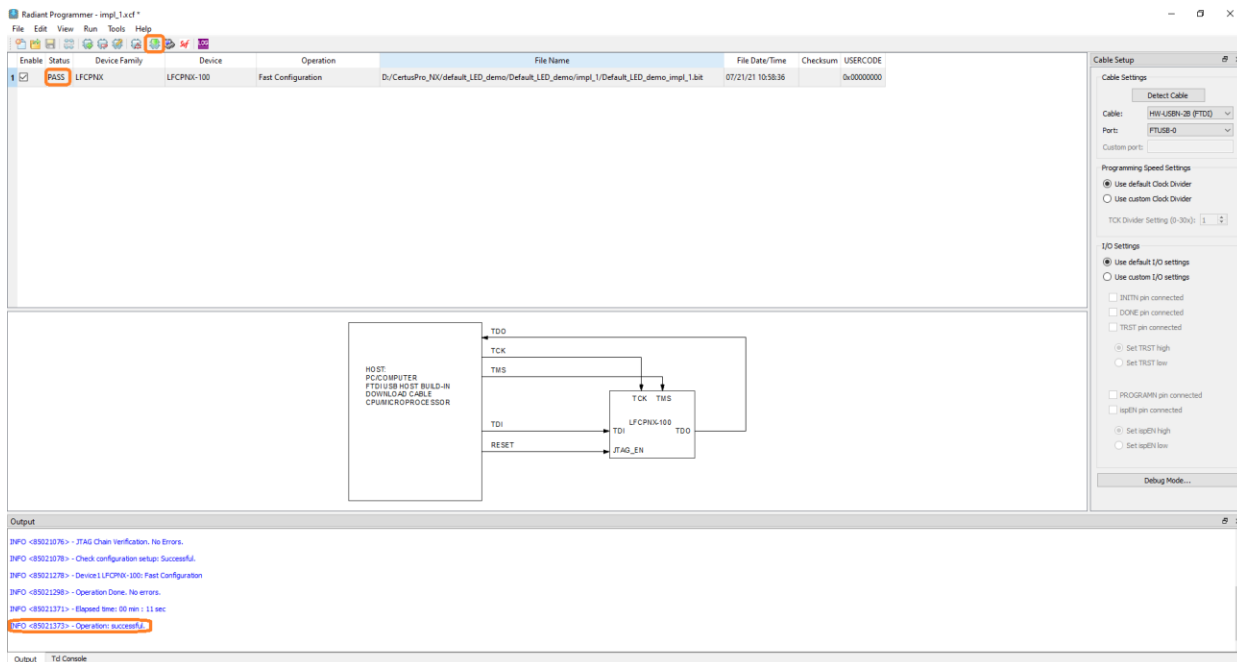

Figure 4.6. Radiant Programmer – Fast Configuration Pass
- d. To program the bitstream file, click the **Program** button in Radiant software (Figure 4.6). If the programming is completed successfully, the **Status** column shows **PASS**. The **Output** pane also shows **INFO – Operation: successful**. The bitstream has been downloaded into internal SRAM